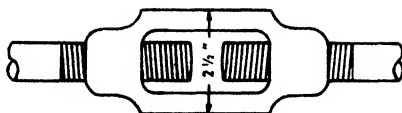

FIG. 71. TURNBUCKLE.
8. A turnbuckle, Fig. 71, on a large draw rod is 2½" across. A mechanic tightens this turnbuckle with a wrench having a 16" handle. If he exerts a pull of 20 lbs. on the wrench (a) what resistance does the turnbuckle offer? (b) what is the M. A. of the wrench? Make a diagram showing to what class of levers this wrench belongs.